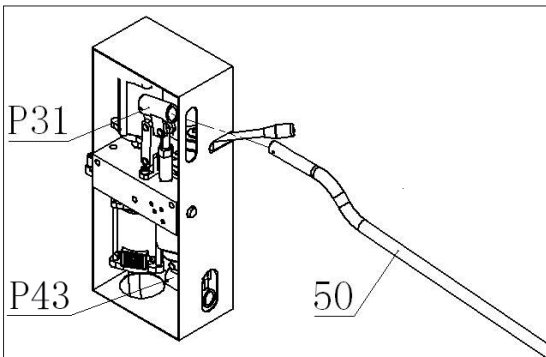

Fig.12
- Operate manually: Insert the handle tube (50) into the handle sockets. 2 handle sockets are provided. The upper one(P31) is for high pressure and low speed; and the lower one(P43) is for low pressure and faster speed. Fig.12.